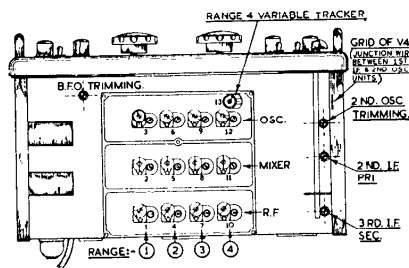

Fig. 3
Leaving the controls and connections undisturbed, the input frequency should be changed to 1620 kc/s. and the second oscillator adjusted, by moving the core in the V4 screening can (see Fig. 3), until output is maximum. Because of the slight loss in conversion, a greater input (by some 2 or 3 db) will be required to give 50 milliwatts output. The change to 85 kc/s. can be obtained with the oscillator on either the high or the low side of 1620 kc/s. and two positions of oscillator core will give output — the lower frequency position, with the core furthest in, is the correct one.
With the BFO switch at "off," a modulated signal should be applied and tuned in accurately on the receiver. The modulation is switched off, the BFO switched on and, with the pitch control at half-mesh (white spot at top), the core in the BFO unit (see Fig. 3) is set to give zero beat.
The controls remain as before but with the RF gain also turned to maximum. Should it be found necessary to correct discrepancies in the scale calibration, the output from a Crystal Frequency Standard should be applied to the aerial terminals (the calibration of most Signal Generators is not accurate enough). Adjustment is then made to the cores and trimmers appropriate to each range, in the oscillator section of the coil box (see Fig. 3). Checks and adjustments should be made at the frequencies given below, using the TRIMMER CONDENSER at the higher frequency end of the scale and the CORE at the lower frequency end. The BFO should be switched on for these tests, with the pitch control at "12 o'clock." The
ceramic tracker condenser shown in Fig. 3 has been very carefully adjusted for proper tracking on Range 4 and it is not advisable to touch it.
* Accessible under the chassis (see Fig. 3).